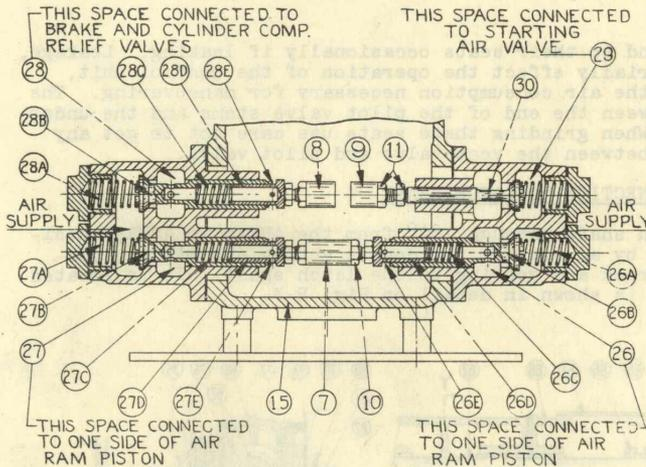

FIG. R-2
Fig. R-2 showing Section X-X in Fig. R-1, is a horizontal section through the pilot valves. Valves (26B) and (27B) are the air ram control valves, (27B) AHEAD and (26B) ASTERN in a right hand engine. The air ram is essentially a double acting piston and rod, the latter being connected through gearing to the latch shaft. The piston is actuated by compressed air at 125 to 200 lbs. pressure and, for the operation of the ram, it is essential that the pressure and relief on the two sides of the piston be under accurate control. This control is by means of the pilot valves (26B) and (27B) actuated by the control lever through the cam and lever (7) as previously described. The valves are identical on each side, and the operation is the same whether AHEAD or ASTERN. Referring to Fig. R-2 the outer chambers are connected to the air supply and the inner chambers (26) and (27) are connected to the two sides of the air ram cylinder. Fig. R-2 shows the mechanism with the control lever at STOP and lever (7) vertical. In this position the pilot valves (26B) and (27B) are both held closed by their spring (26A) and (27A) and vent valves (26D) and (27D) are held out against adjusting screws (10) in lever (7) by their springs (26C) and (27C). Both sides of the air ram piston are therefore vented into the control housing through the drilled holes in the pilot and vent valves. As the control handle is moved AHEAD lever (7) is moved to the left as seen in Fig. R-2 (for a right hand engine) and vent valve (27D) slides into pilot valve (27B) collapsing spring (27C), until its head engages the end of the pilot valve and seals vent holes (27E). Further motion of lever (7) lifts valve (27B) off its seat, collapsing spring (27A) and admitting air to chamber (27) and so to the AHEAD side of the air ram piston. During this action vent valve (26E) on the opposite side is pushed out by spring (26C) and follows the motion of lever (7). The vent passage through the drilled holes in the valves thus remains open, venting chamber (26), and allowing the air ahead of the piston to escape as the
The flywheel brake is actuated by a single acting air piston and is released by a spring. Only one pilot valve is therefore necessary for its control. This valve, (28B) in Fig. R-2, is identical with the pilot valves for the air ram and its action in admitting air to and venting the cylinder is exactly the same. The valve is operated by lever (8) as previously described, and the adjusting screw in the lever should be set the same as the ones for the air ram pilot valves, that is to allow  $\frac{7}{32}$ " opening of the vent valve when the lever roller is on the cam base circle.
Valve (30) in Fig. R-2 is for the control of the master valve in the starting air manifold, described in detail in Paragraph 11. This is a piston operated valve, held closed by the air pressure on the valve head and opened by the pressure above a piston when the cylinder below is vented. The pilot valve operating the master valve must therefore vent the cylinder below the piston. It is a simple poppet valve, mechanically opened and spring closed. Referring to Fig. R-2 chamber (29) is connected to the cylinder below the piston in the master starting valve. When the pilot valve is opened by lever (9) as previously described, this chamber is vented into the control housing and the master starting air valve opens, admitting air to the starting air manifold. When the pilot valve is closed pressure immediately builds up below the piston and the master valve closes.